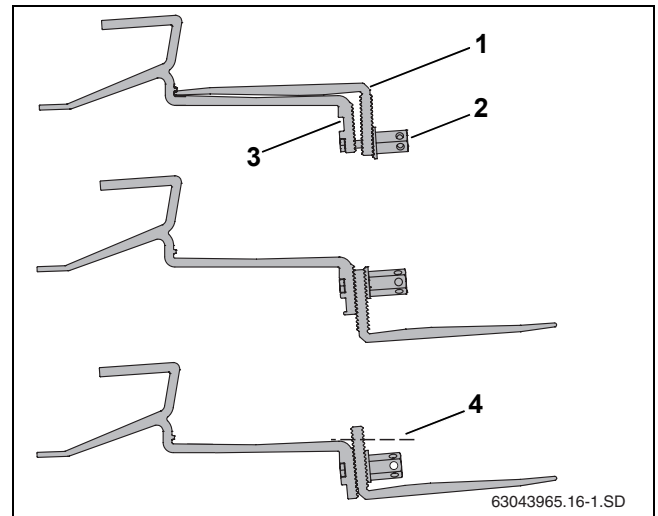

Fig. 16 Position lower part of roof hook again
- ▶ Loosen long hexagon nut (Fig. 16, [2]).
- ▶ Insert the screw in the upper hole (Fig. 16, [3]).
- ▶ Loosely fasten the lower part of the roof hook (Fig. 16, [1]). Do not tighten the connection yet.